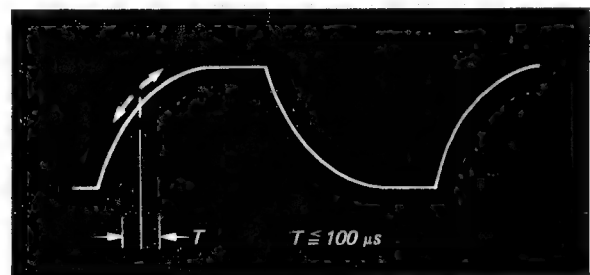

Fig. 7-7.
2. Check that gate pulse locks at TP-405 in the range of less than 100 μsec . See Fig. 7-7.